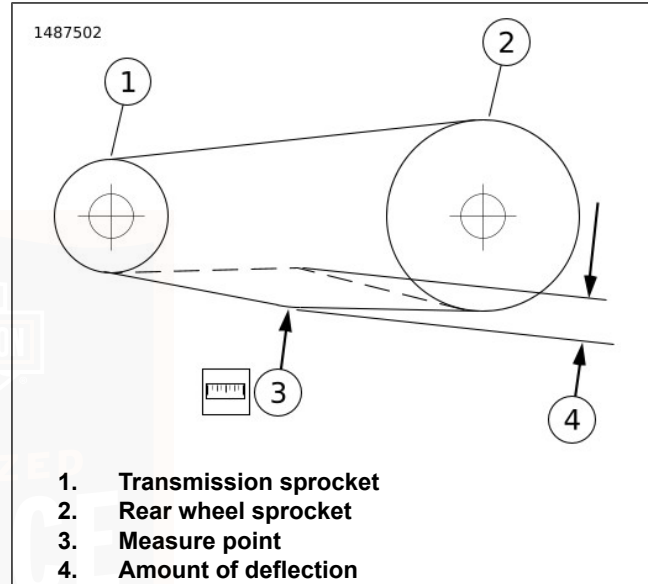

Figure 60. Checking Drive Chain Deflection
1. See Figure 60. Measure chain deflection.
- b. Find center point on lower section of chain between transmission sprocket (1) and rear wheel sprocket (2) centers.
- c. Rotate wheel to find tightest point of chain at measure point (3).
- d. Push chain up then pull down to measure amount of deflection (4) in lower portion of chain.